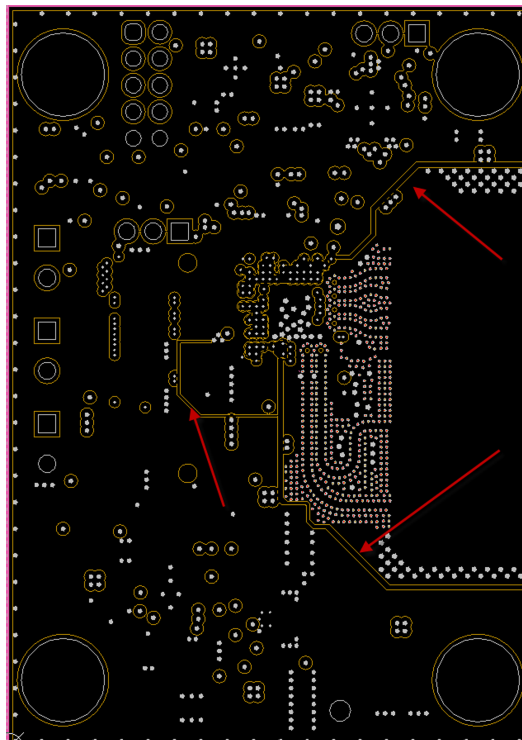

図 5. Cuts in Layer 2 Ground Plane
- By providing ground cuts, the designer can reduce the interference of the switching currents for the regulator and the analog currents on the AWR1642 device (see 図 5). The circuits most vulnerable to ripple are the XTAL lines, VOUT_14SYNTH , VOUT_14APLL, VIN_18VCLK, and VIN_18VCO supplies.